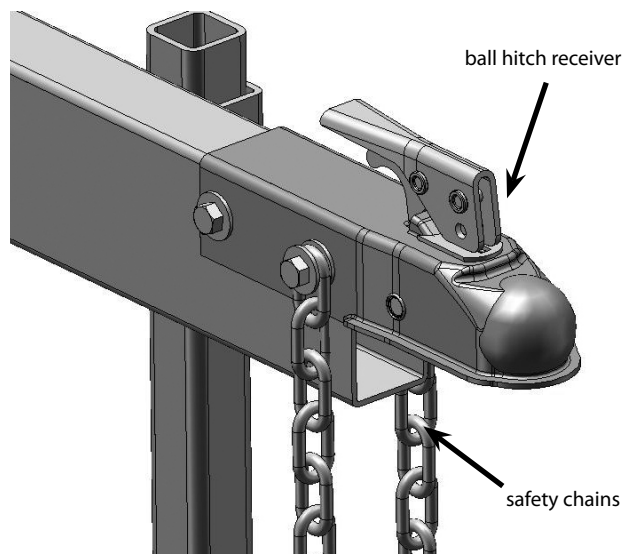

Figure 6
10. Install the ball hitch receiver onto the end of the tongue using two 3-inch long bolts, washers, and nuts. Make sure the safety chains are attached to the forward-most bolt. Tighten securely with 19mm wrenches. **SEE FIGURE 6.**